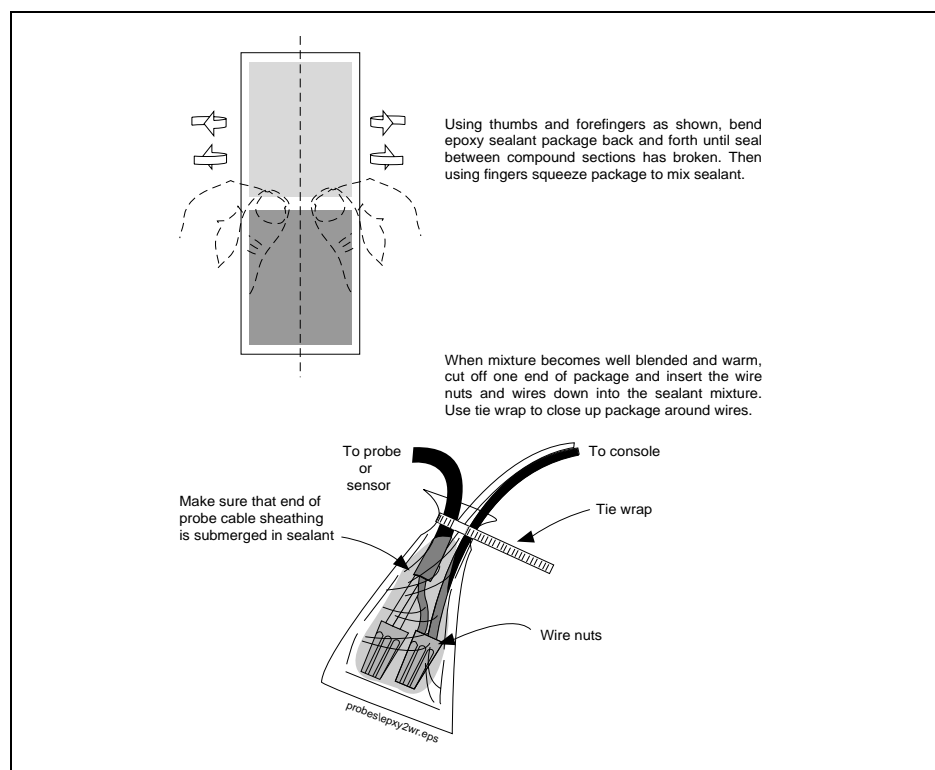

Figure 10. Epoxy Sealing the Wire Nut Connections
7. Seal wire nuts with epoxy sealant following instructions in Figure 10, using one bag for the two wire-nut connection.